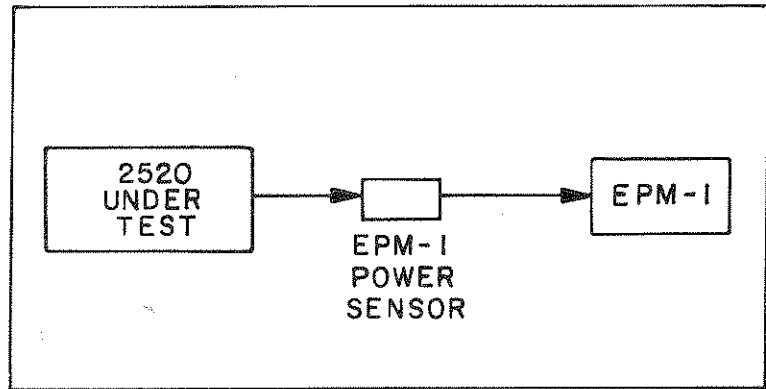

Figure 6-103. Measurement at 0 dBm
3. **Verification of 0 dBm:** Set the 2520 to 0 dBm. See the caution note below, and then connect the equipment as shown in Figure 6-103 and take a reading on the EPM-1. It should be 0 dBm to within the tolerance shown in Table 6-102.